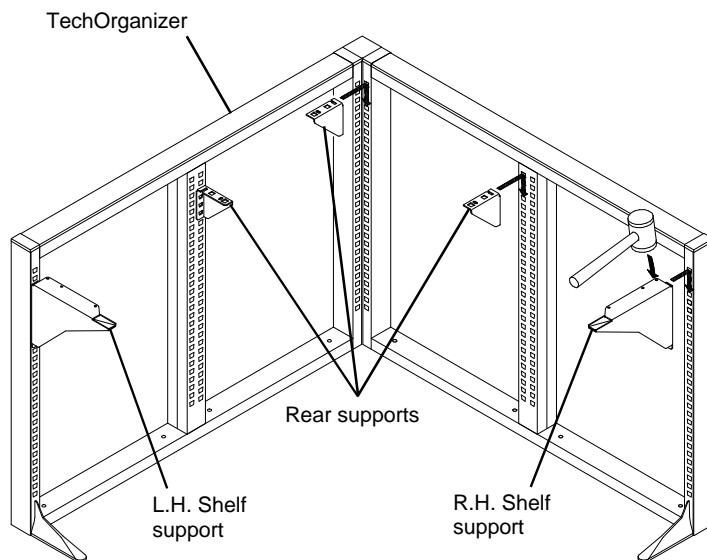

Figure 1
**On Shelf.** Position the **Shelf Supports** as shown in **Figure 1**. Insert the hooks on the back of the supports into the Slotted Standards and push down. To ensure that the hooks are seated, tap the top rear of the Shelf Supports with a plastic mallet or equivalent.
2. Install the **Rear Supports**. Be sure to locate them at the same height as the Shelf Supports. See **Figure 1**.